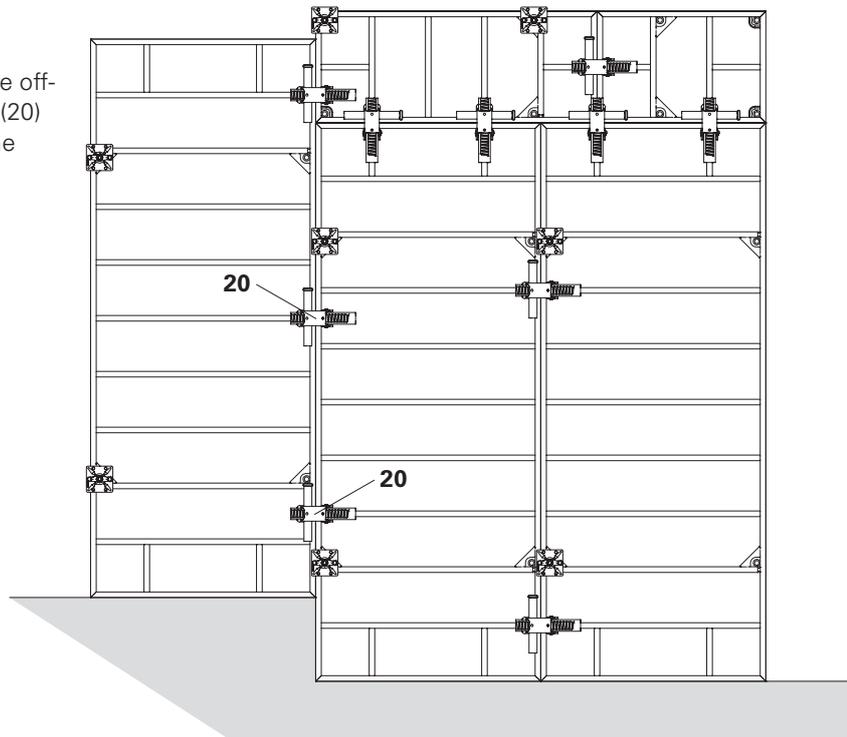

Fig. A9.04
For height offsets: depending on the offset itself, Alignment Couplers DRS (20) are installed alternately on the frame struts of the right and left panels. (Fig. A9.04)